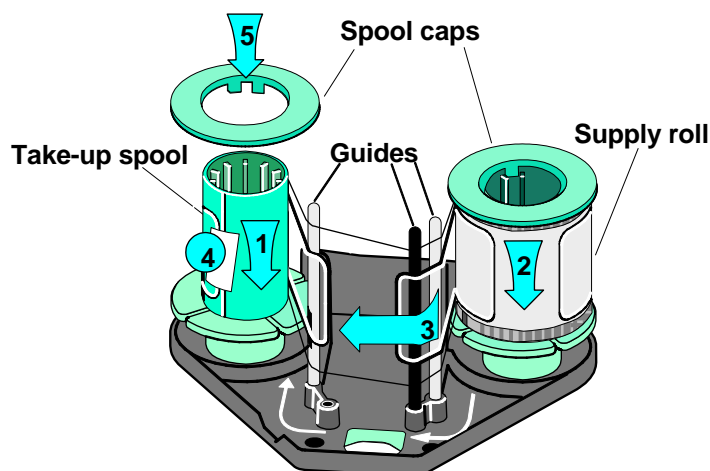

Figure 2-11: Load supply in the cartridge
- 5 Remove the empty spool from the holder and press it into place on the take-up holder (step 1 in Figure 2-11). Make sure the ribs inside the spool align with the grooves in the holder.
- 8 Place the full supply roll on the right holder as you face the open side of the cartridge (step 2 in Figure 2-11). Make sure the supply will unroll counterclockwise \curvearrowright , as shown.
- 11 Wind the supply material in front of the guides and around the take-up spool (step 3 in Figure 2-11). Make sure that the material will wind counterclockwise \curvearrowright .
- 12 Press the label onto the take-up spool to secure the supply material (step 4 in Figure 2-11).
- 13 Press the spool caps back into position on the ends of the take-up spool and supply roll (step 5 in Figure 2-11).